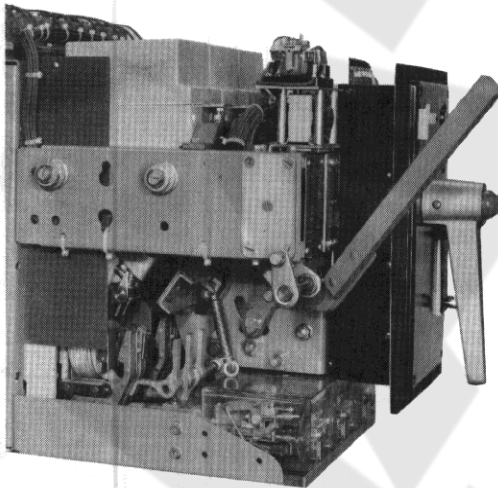

Figure 5
5. Insert **maintenance** closing handle #1151-9252 as in Figure 5 and slowly operate until arcing contacts touch. All arcing contacts should make simultaneously with a permissible variation of  $1/32$  max. Movable arcing contact fingers should align with stationary arcing contacts.